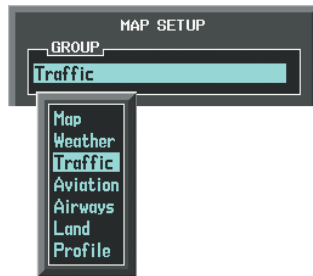

Figure 6-195 Navigation Map Page Setup Menu
- 4) Turn the small **FMS** Knob to select the Traffic Group and press the **ENT** Key (Figure 6-195).